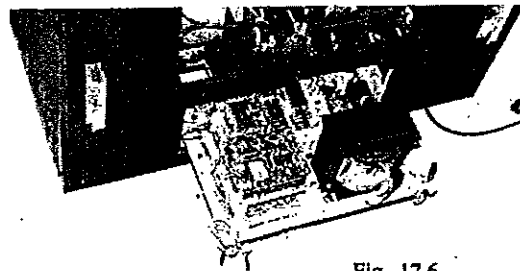

Fig. 17.6
- ⑤ Take out the Power Supply Unit from the Front Cabi. Since the Power Supply Unit on which the Transformer is mounted, is a heavy item, be very careful when performing the work (Fig. 17.6).